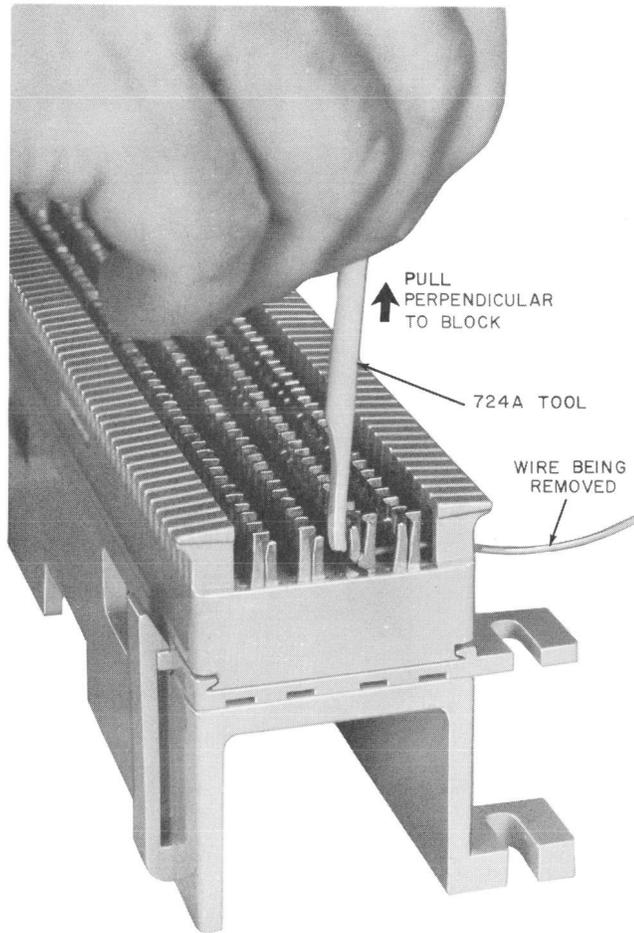

Fig 17—Removing Wire With 724A Tool
4.01 When it is necessary to remove a cross-connecting wire from a terminal use a 724A Tool and place the fork of the tool astraddle the terminal and under the wire (Fig. 17). *To prevent excessive buildup of cross-connecting wire, remove the cross-connecting wire from the terminal.*